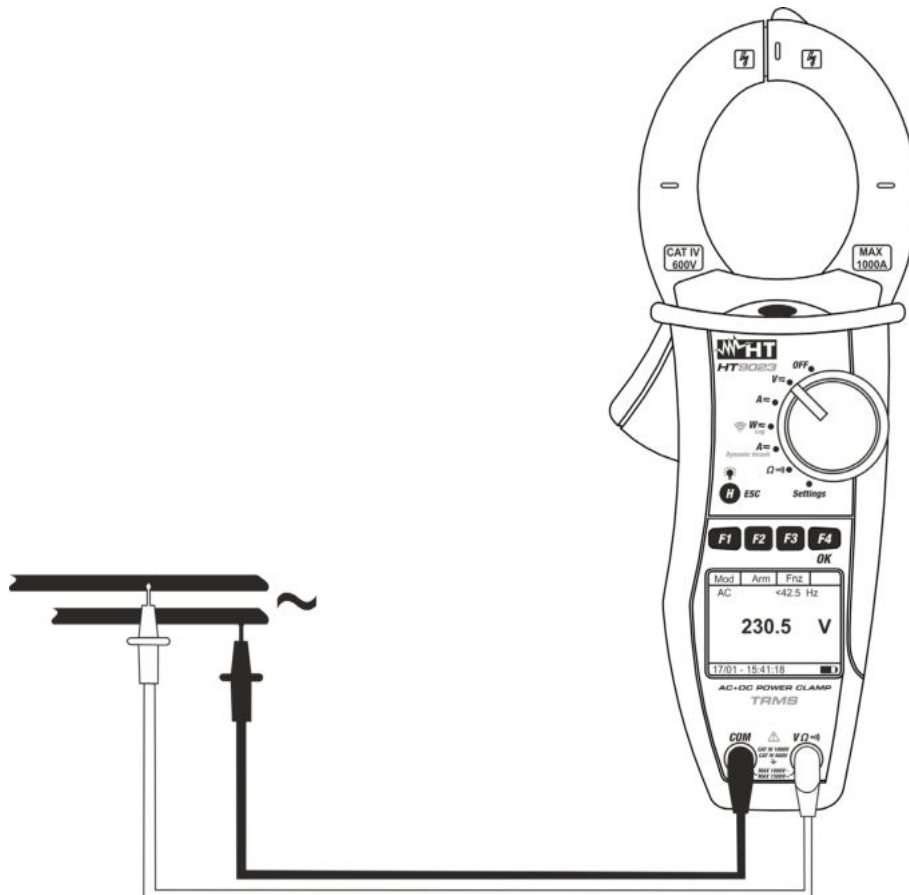

Fig. 6: AC and AC + DC voltage measurement
4. Connect red cable to input lead **VΩ)))** and black cable to input lead **COM** then position the leads to the desired points of the circuit under test (see Fig. 6)